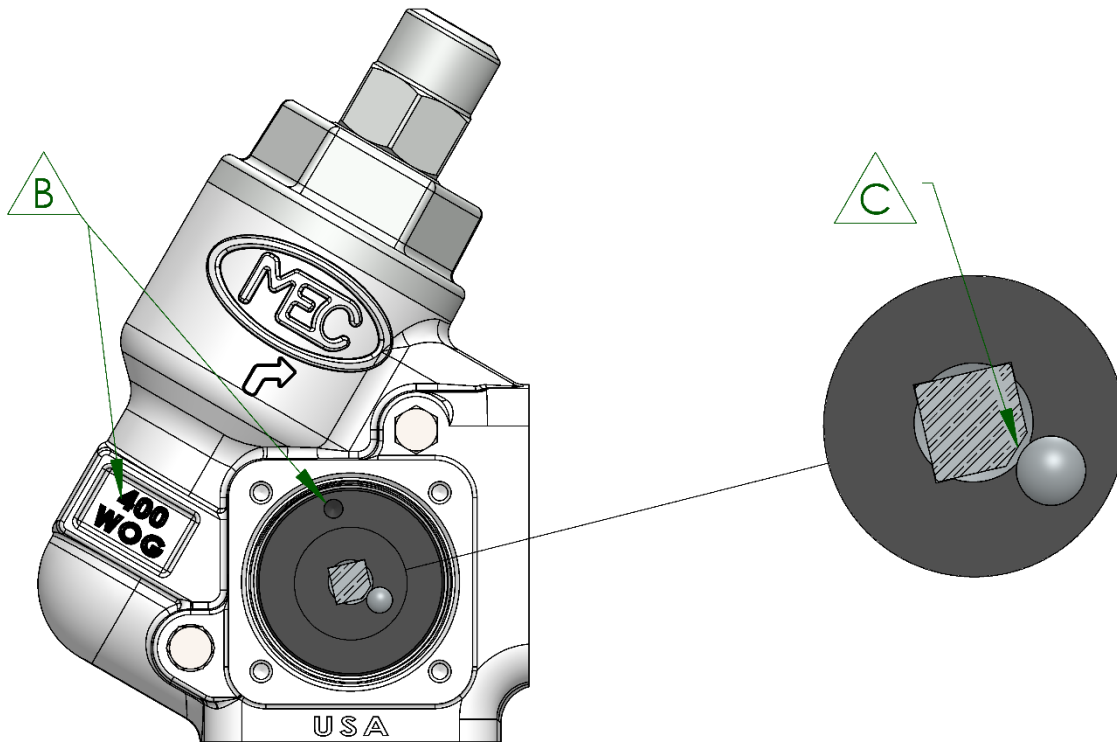

Figure 9: Spool Orientation
10. Verify the spool's dimple is on the same side as the valve body's [1] pressure rating (**Figure 9, Detail B**)
20. Install spool bonnet assembly [2-10] onto the desired side of the body [1]. Align the flat on the spool stem with the drive screw head as shown, to ensure the stem fits properly into the Spool. See (**Figure 9, Detail C**)
40. Install (4) screws [42] into body [1]
50. Install (2) set screws [16] into body [1]